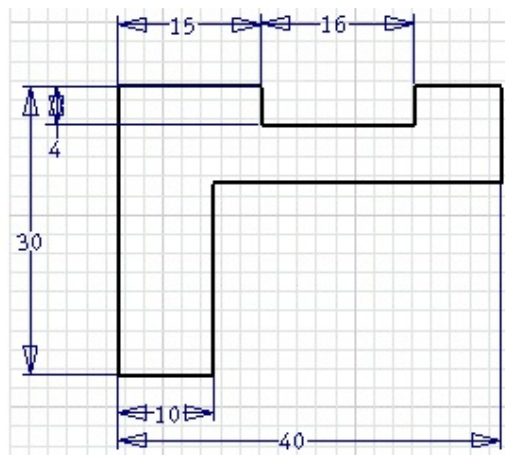

Figure 5-97 Dimensioned sketch for the base feature
- a. Create the base feature on the YZ plane, refer to Figures 5-97 and 5-98.
5. Create the sketch for the base feature and then add the required constraints and dimensions to it. The dimensioned sketch for the base feature is shown in Figure 5-97.